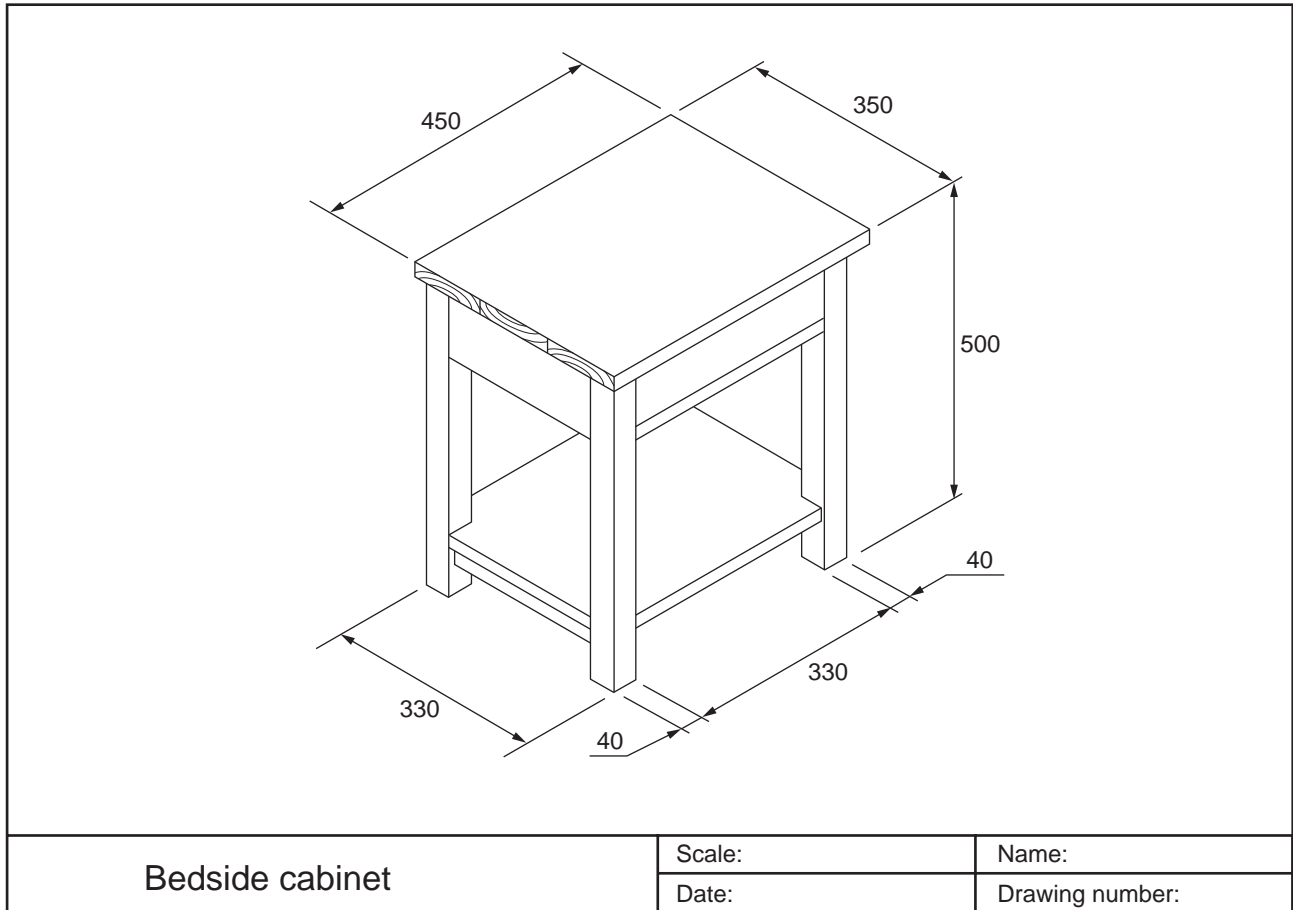

Figure 1
- a. How wide are the legs of the bedside cabinet shown in Figure 1? 1 mark
- b. What direction is the grain of the top side rail of the bedside cabinet shown in Figure 1? 1 mark
- c. In the space provided below, sketch the top of the bedside cabinet shown in Figure 1. Show the grain direction and the location of the biscuit joints that are used for the widening joints. 2 marks